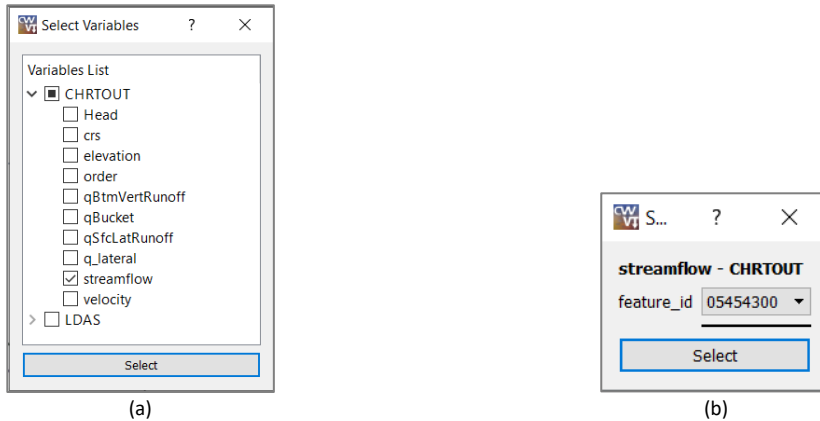
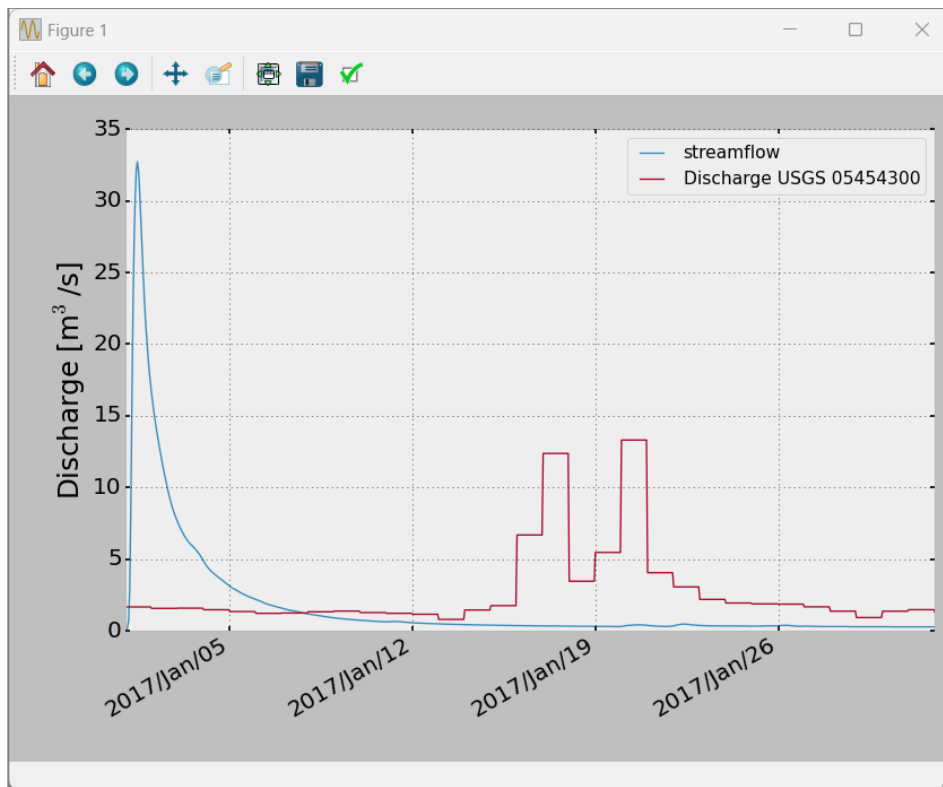

Figure 96(a)The prompt dialog to choose output variables to plot, (b)The prompt dialog to choose the gage location.
Figure 97. The resulting diagram of WRF-Hydro model compared with USGS data at the gage location of 05454300.
- b. Use the menu item **Edit > EOL Conversion**, then select **Unix (LF)**.
23. Execute the simulation which would take around 30 minutes on personal computers. When the simulation is complete, a dialog will appear allowing us to choose output variables that we can plot. Since we've configured the **USGSAgent** to collect NWIS streamflow at gage location 05454300, we should select the corresponding reach in our simulation. Select "streamflow" from "CHRTOUT" as shown in Figure 96\(a\). Then a second drop list will pop out, select "05454300" from it as shown in Figure 96\(b\). The resulting diagram is shown in Figure 97.